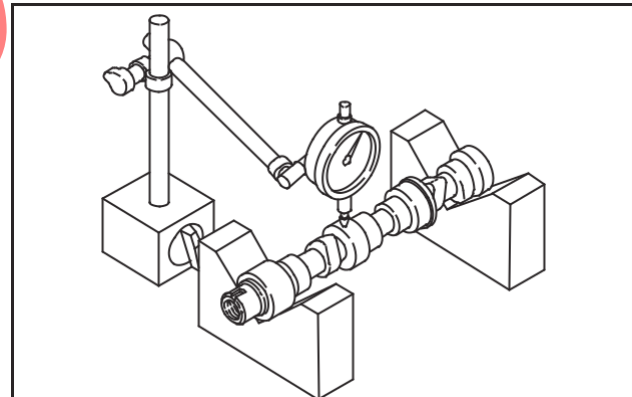

**Fig. 12 – Checking Camshaft Journals**
2. Measure camshaft journals, Fig. 12.